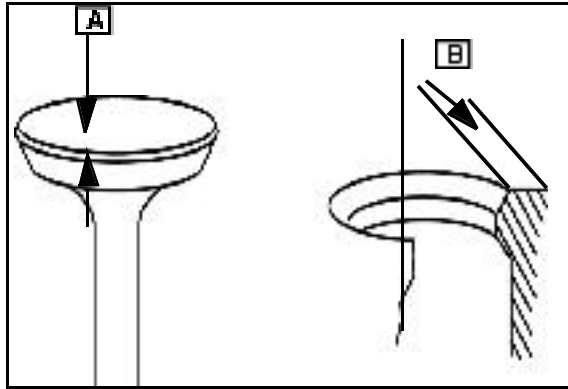

Fig. 16
3. Replace valve if taper depth margin ([A] Fig. 16) is less than 1/64" (.4mm).
4. Replace valve seat if dimension ([B] Fig. 16) is less than 1/64" (.4mm).